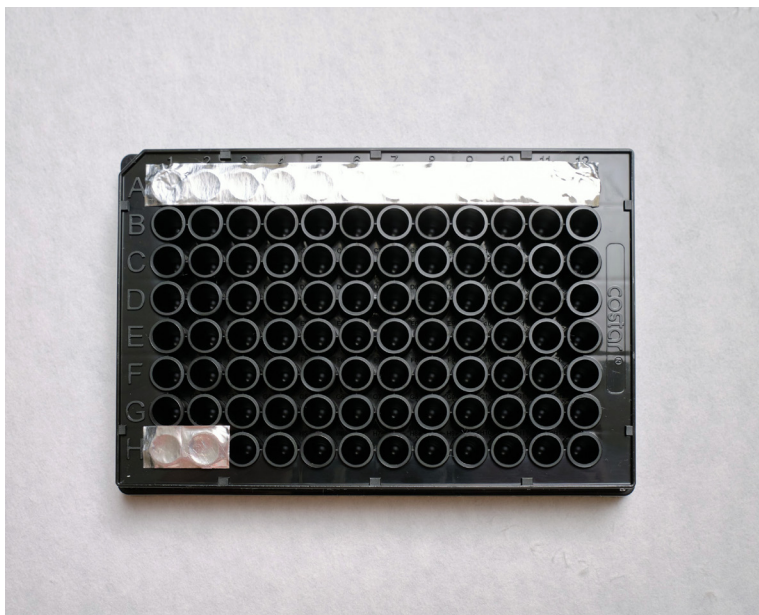

FIGURE 5-3: Filled and Sealed 96-Well Plate
Once all PhenoCycler Reporters are assigned to a cycle number using the Experiment Designer App, cycles can be associated with specific wells following an order from left to right (1-12) and from top to bottom (Row A – Row H), as shown in figure 5-3. During the PhenoCycler run, in each cycle, the instrument withdraws the Reporter Master Mix from one well of the 96-well plate.
- d. Cover the entire plate and do not move or tear the foil once it has adhered to the plate, as shown in FIGURE 5-3.